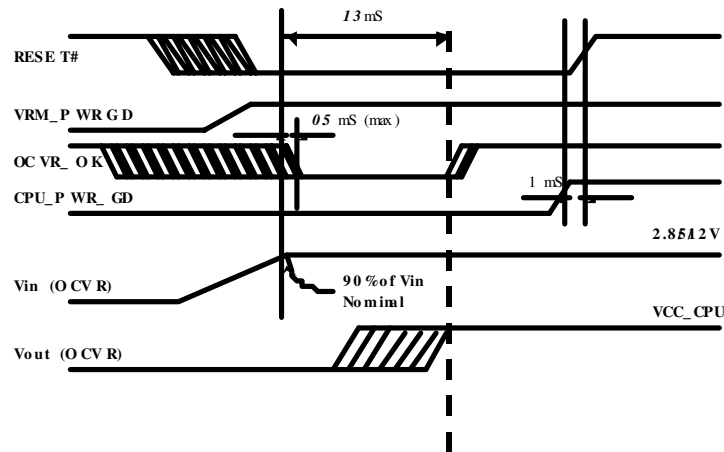
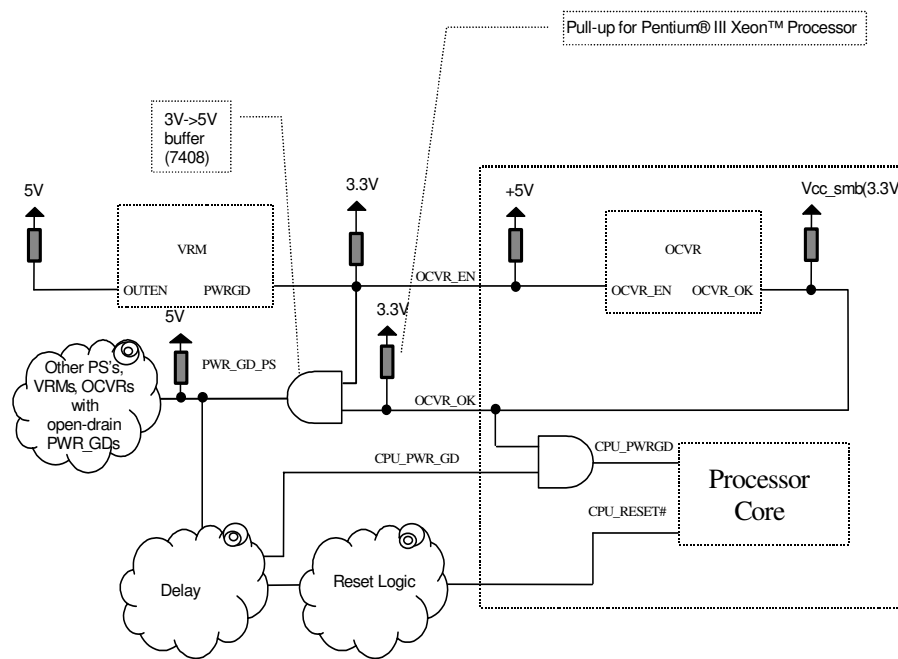

Figure 41. PWRGD Relationship at Power-On
Figure 42. PWRGD Implementation
This signal is the output enable for the internal cartridge voltage regulator. Driving this Low will inactivate the outputs of the OCVR. This is an open drain signal referenced high to +5V through a 10K Ω resistor within the cartridge to activate the VRM when not driven low (this to satisfy legacy requirements). Refer to Figure 41 and Figure 42 For PWRGD relationships at Power up.
This is an open drain compatible output from the On-Cartridge Voltage Regulator Module (OCVR) indicating that its outputs are enabled and operating within specifications. This signal is referenced to Vcc_SMB (+3.3V) through a 10K Ω resistor, and should be used in conjunction with an equivalent signal from the host power system to generate the CORE_PWRGD signals for the processor cores. Refer to Figure 41 and Figure 42 for PWRGD relationships at Power up. PWRGD assertion must lag OCVR_OK assertion.
specifications. Clean implies that the signal will remain low (capable of sinking leakage current), without glitches, from the time that the power supplies are turned on, until they come within specification. The signal must then transition monotonically to a high (2.5V) state. Figure 41 illustrates the relationship of PWRGD to other system signals. PWRGD can be driven inactive at any time, but clocks and power must again be stable before a subsequent rising edge of PWRGD. It must also meet the minimum pulse width specification in Table 14 and be followed by a 8 mS RESET# pulse.
Current VRM 8.3 (on baseboard) specification requires VRM_PWRGD to be asserted when its output is within 12% of nominal value. In the Pentium® III Xeon™ processor at 700 MHz and 900 MHz, PWRGD is logically ANDed with OCVR_OK before being applied to the core (PWRGD_CORE). According to legacy datasheet documents, RESET# negation is expected 1 mS after seeing PWRGD_CORE becoming valid by the processor core. The OCVR is not expected to provide a valid OCVR_OK signal assertion within 13 mS of seeing 90% of its input voltage. The delay before the assertion of OCVR_OK may cause a race condition between RESET# and the valid PWRGD_CORE that is seen at the core. It is recommended to relax the deassertion of RESET# to meet this critical constrain. Careful analysis needs to be done in existing platforms. Refer to Figure 41 and Figure 42 below for new timing relationship requirements.
1. VCC_CORE must be applied to the OCVR input before OCVR_OK can become valid (even though it could be pulled high if the VCC_SMB supply is turned on, see figure 41).